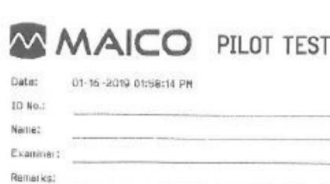

Figure 12
- 1 The header shows the date and time of the session (time of printing) as well as the logo and name of device (Figure 12, 1).
- 2 Furthermore, it is possible to fill in the following fields manually (2):